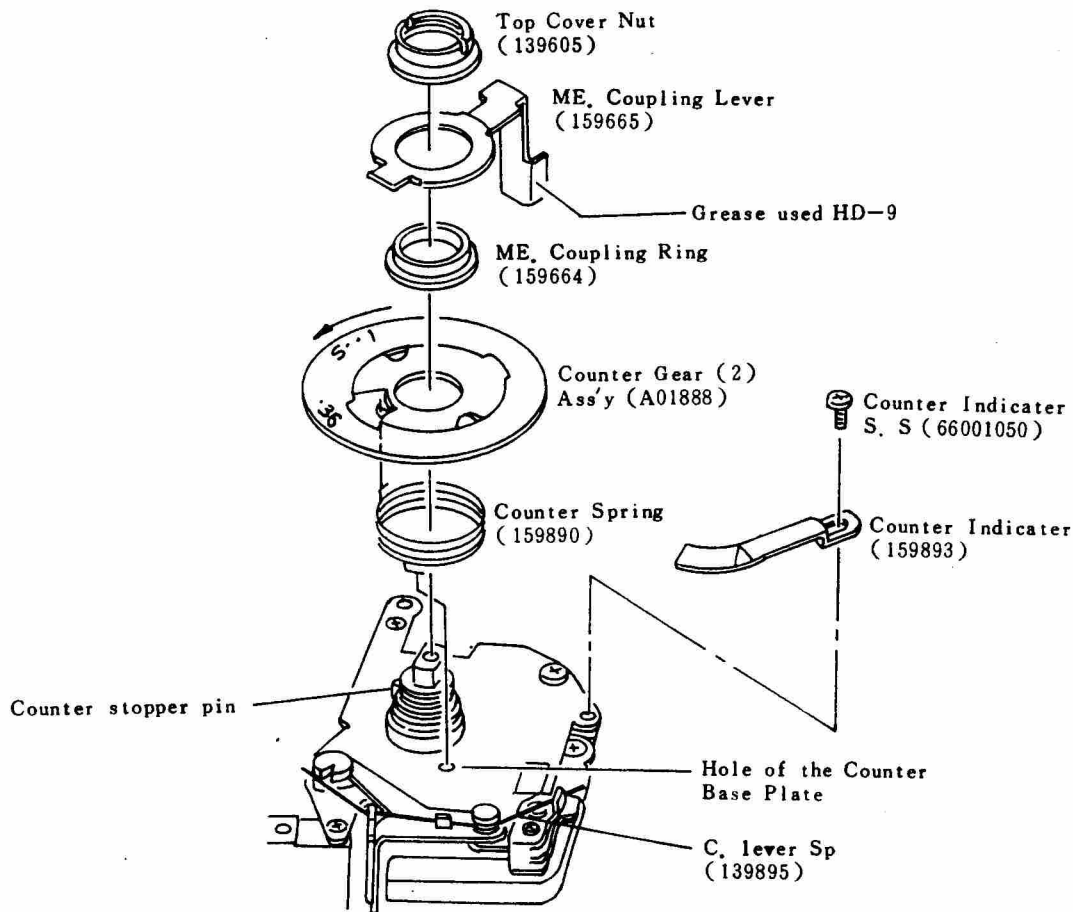

Fig 44
- e) Fit the C. Lever Spring (139895) as shown in (Fig 44).
- f) Hook the Counter Spring (159890) into the hole of the Counter Gear (2) Ass'y (A01888).
- g) Fit the Counter Gear (2) Ass'y with the Counter Spring over the Shaft of the Counter Base Plate Ass'y (A01885) and then hook the Counter Spring into the hole of the Counter Base Plate Ass'y.
- h) Turn the Counter Gear (2) Ass'y in the direction of arrow as shown in (Fig 44) and come to a stop it then lift up it about 2.0~3.0 mm and lift down it.
- i) Set the ME. Coupling Ring (159664), ME. Coupling Leve (159665) and tighten the Top Cover Nut (139605). Check the Counter Gear (2) Ass'y for its operation. Counter Gear (2) Ass'y should normally be returned smooth under spring forces.